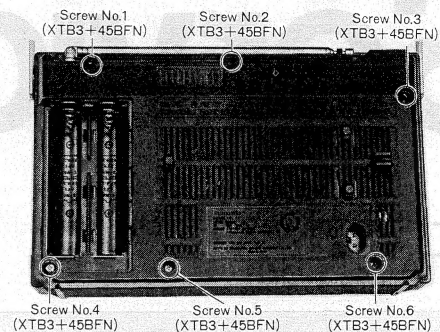

Fig. 1
2. Remove the six (6) screws (nos. 1~6) for the cabinet back cover, as shown in fig. 1.